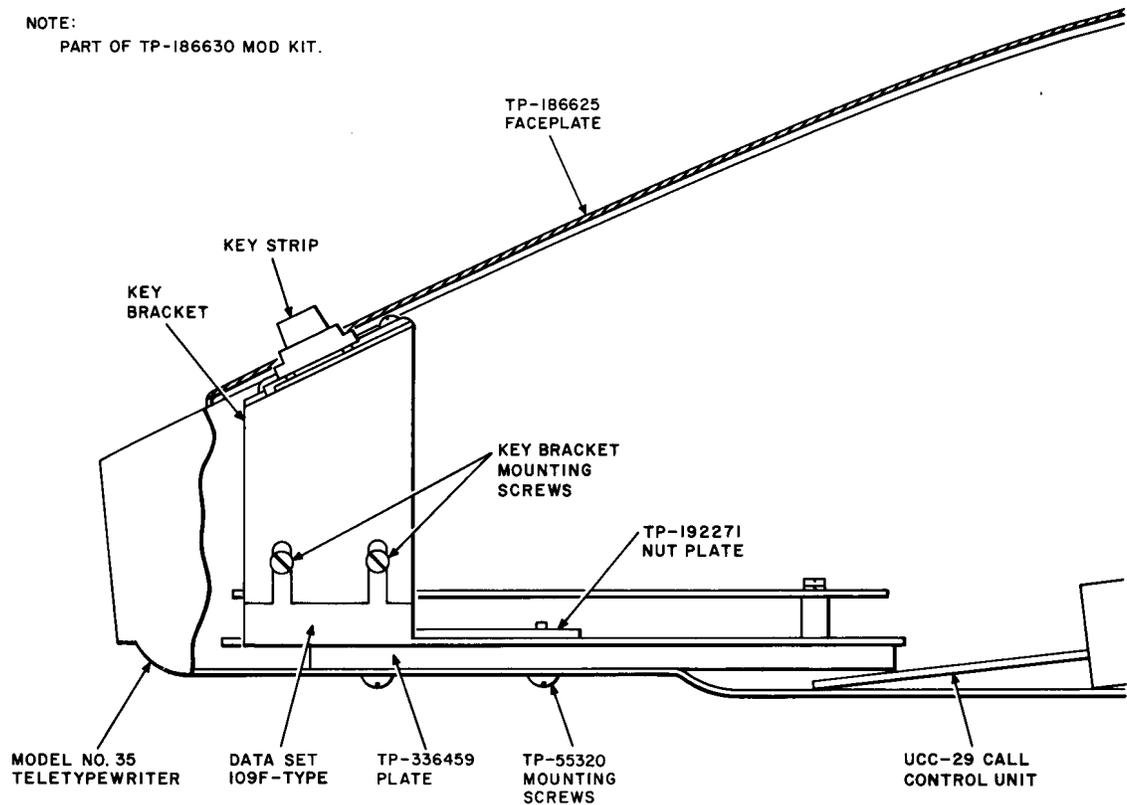

Fig. 3—Cross Section Diagram Showing the Mounting of Data Set 109F in a 35-Type Teletypewriter
- (3) Remove the two mounting screws from beneath the pedestal pan (refer to Fig. 3).
- (4) Lift the data set vertically to remove it from the teletypewriter (refer to Fig. 3). The TP-192271 nutplate is now removed from between the baseplate and the data set circuit pack EU2.
- (1) Position the TP-336459 plate in the TTY pedestal pan so the holes in the plate line up with the holes in the pan.
- (2) Place the TP-192271 nutplate between the data set EU2 circuit pack and metal baseplate of the data set (refer to Fig. 3). The holes in the baseplate and nutplate must align.
- (3) Position the data set in the TTY so the holes in the pedestal pan, plate, data set baseplate, and nutplate are in alignment.
(4) Insert the mounting screws TP-336494 through the holes and start the screws into the nutplate (refer to Fig. 3).
(5) Before tightening the mounting screws, position the data set so the plastic key collar will be located in the center of the faceplate opening. After positioning the data set, tighten the mounting screws.
(8) Adjust the height of the key bracket so the top of the keystrip collar is flush with the TTY faceplate when the TTY cover is closed (refer to Fig. 3).
(9) Close the teletypewriter cover and replace the screws in the faceplate, securing it to the TTY cover.